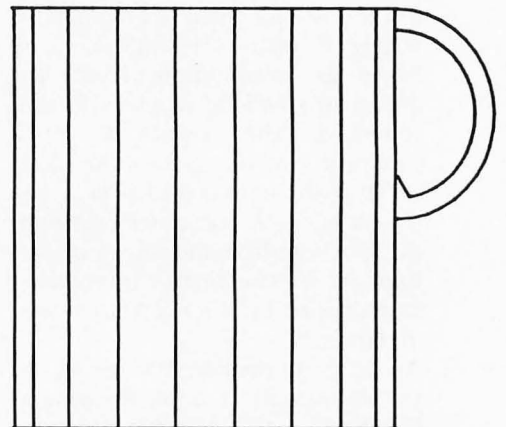

Figure 2: The standard view (untransformed).
Table 3 shows the unit matrix. This transformation reproduces the picture of the object in its original view as defined above. Figure 2 shows a side view of a coffee cup.
The object may be defined with some shape which is not quite the final version, but which uses easily verified dimensions. Thus, in our example, the height is equal to the diameter, and the square outline in figure 2 quickly shows that the array of data defining the cup is correct in the X and Y dimensions.
The result of replacing X by sin(X) pictorially is identical to the projected view of a cylinder, parallel to the Y axis, which has the original view (such as figure 2) painted onto its surface. If the dimensions of the object for this example are such that the width is equal to 360 units, then the cylinder is completely circumscribed by the original view of the object.